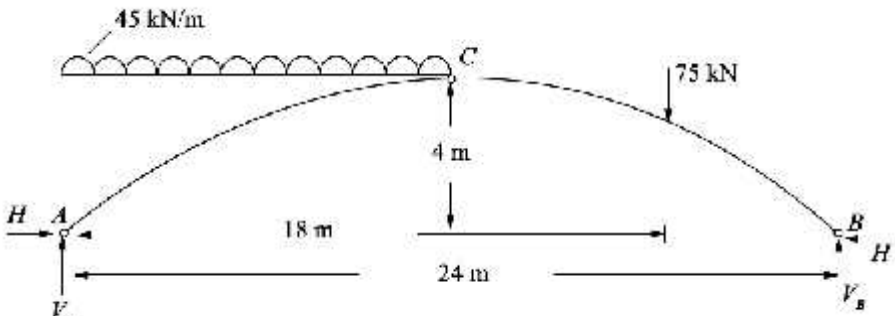

Fig.1
- Analyse the three hinged parabolic arch shown in Fig.1. Determine the bending moment, radial shear and normal thrust at distance of 8 m from left support.